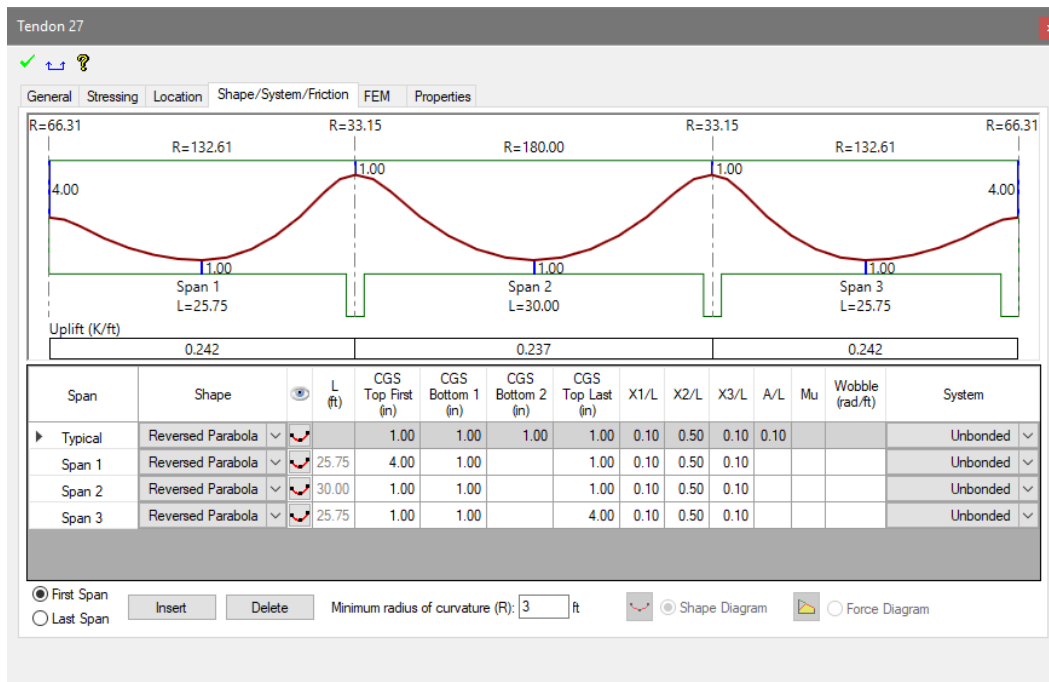

Figure 8-31
- For the general tab we have already made the changes we need so we will accept the values shown here. **Left-click** on the *Shape/System/Friction* tab. The user should now see the same view as shown in **FIGURE 8-31**. A review of this window shows that no change is needed to the shape of this tendon.